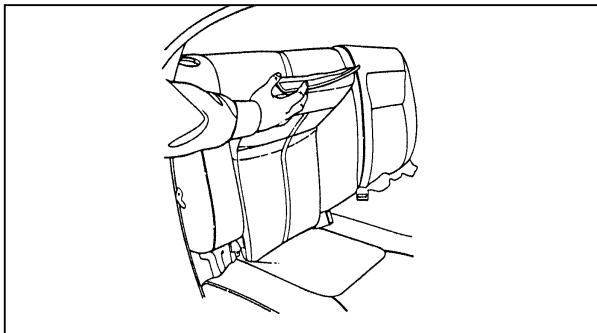

Figure 2: Releasing the latch
2. Grasp the child seat at the top of the seatback and pull the top forward to release the latch. See Figure 2.